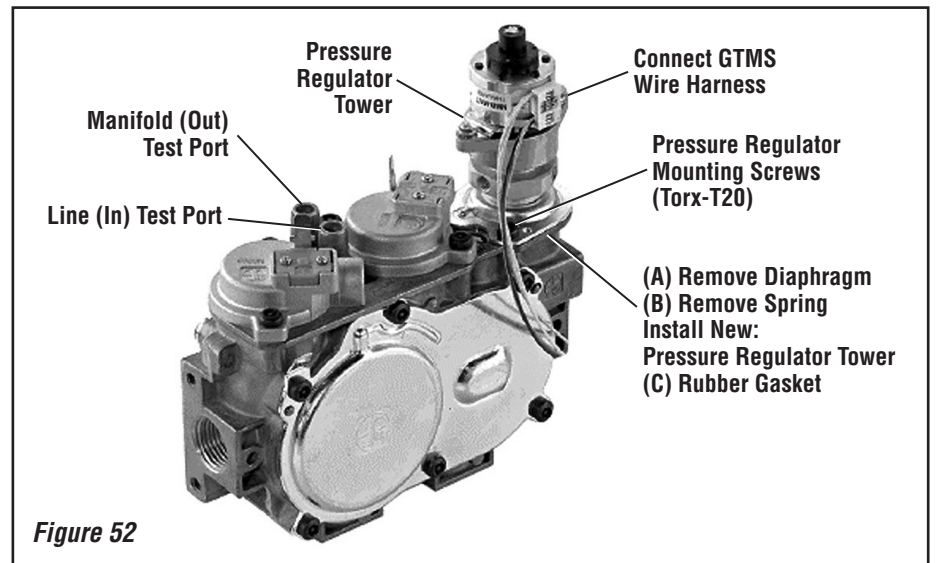

Figure 52
Step 6. See *Figure 52*. Using a Torx T20, or slotted screwdriver, remove and discard the two (2) pressure regulator mounting screws, pressure regulator tower, the diaphragm assembly (A) (if applicable) and the spring (B).
Step 7. Ensure the rubber gasket (C), which is pre-fitted as part of the assembly, is properly positioned (see *Figure 52*).
Step 8. Install the new Stepper Motor pressure regulator assembly using the supplied screws as shown in **Figure 52**. Tighten screws securely (reference torque = 25 lb. in.).
Step 11. Attach manometer to the manifold side pressure test fitting and verify manifold pressure reads 3.5 inches water column (0.87 kPa) for natural gas, and 10.0 inches water column (2.49 kPa) for propane gas (see **Figure 52**).